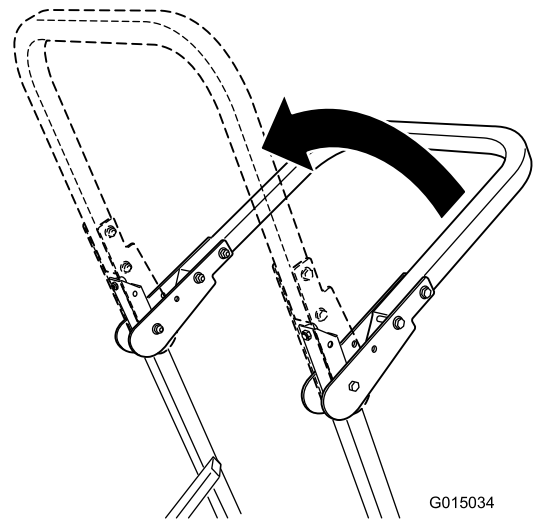

Figure 10
2. Raise the roll bar to the upright position (Figure 10).